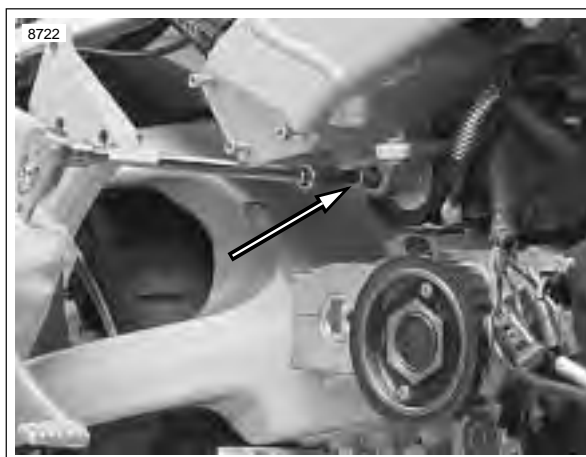

**Figure 3-39. Transmission Vent Line**
6. See Figure 3-39. Route transmission vent line up through left side of frame exiting under the rear master cylinder under the rider's seat. Install two tie wraps to secure transmission vent line in place. Inspect vent line to verify space between vent line and rear exhaust.